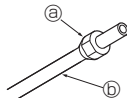

Fig. 5-5
5.2.3. Nasadenie matice (Fig. 5-5)